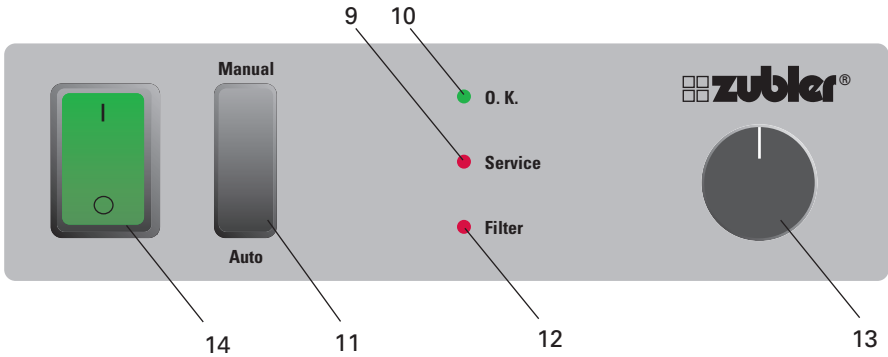

Fig. 1.1: Front panel
If the red LED "Filter" (12) (Fig.1.1) is still lighted although the filter bag was already replaced or if the change intervals of the filterbag get sensibly shorter, the cause is a clogged finefilter cartridge.